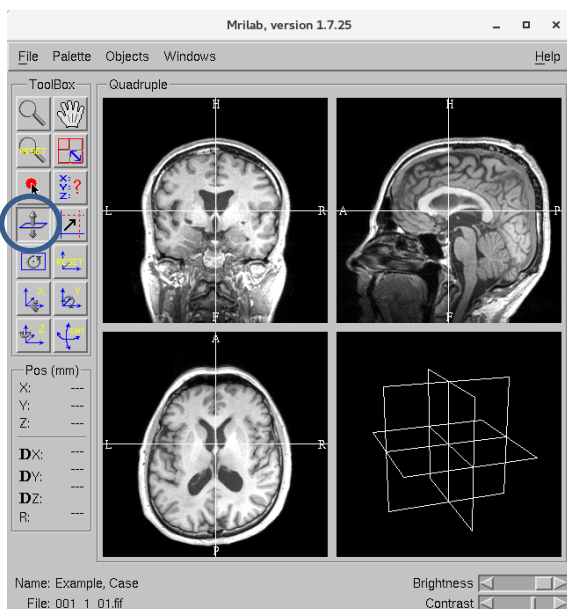

Figure 10: *MriLab* user interface. The **Move Slice** tool is circled.
- Adjust the contrast and brightness sliders at the lower right corner of the window (Figure 10).